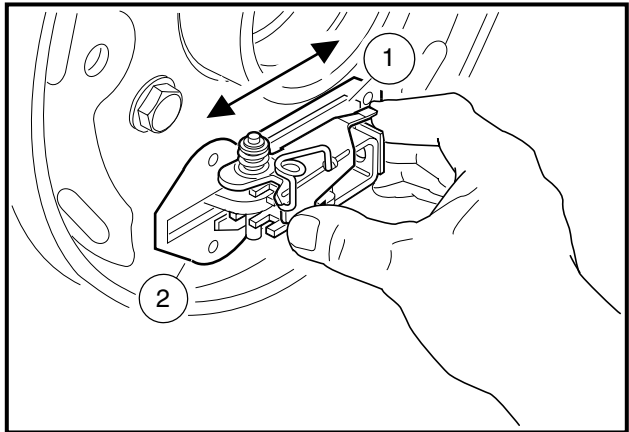

Figure 6-8 Lubricate Slide
3. Lubricate the slide (1) and slide plate (2) with dry moly lubricant (CCI P/N 1012151) on both sides of the backing plate. After lubricating, work the slide back and forth to ensure it slides smoothly and easily (**Figure 6-8, Page 6-6**). Reinstall rubber boot onto backing plate.